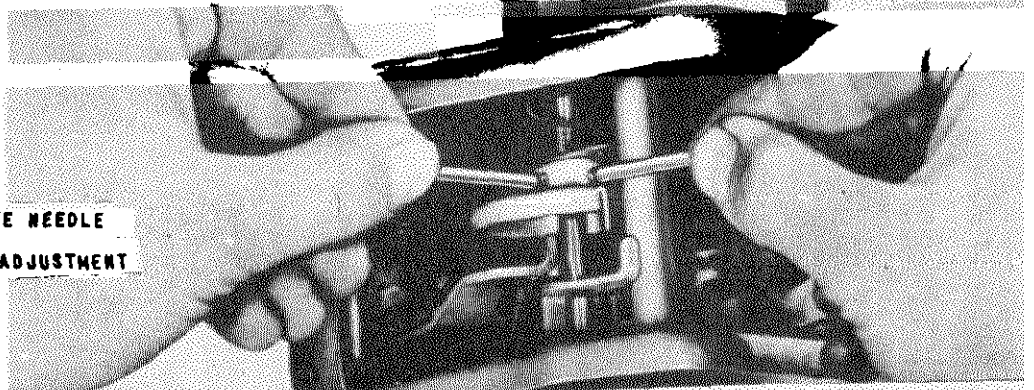

FIG. 3 - REMOVING PICKUP ARM ASSEMBLY
- 2 - Using a tool such as a screwdriver, press in on one of the blue steel Pickup Arm hinge brackets while lifting up on the arm. (Fig. 3). This will release the Pickup Arm Hinge pin.